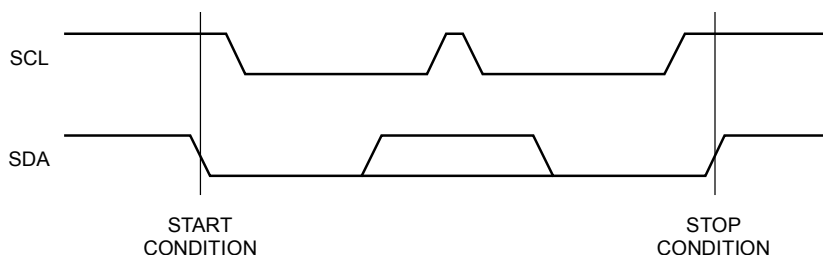

Figure 5. START/STOP Condition
- (1) Data transfer may be initiated only when the bus is not busy.
- (2) During a data transfer, the data line must remain stable whenever the clock line is high. Any changes in the data line while the clock line is high will be interpreted as a START or STOP condition (Figure 5).